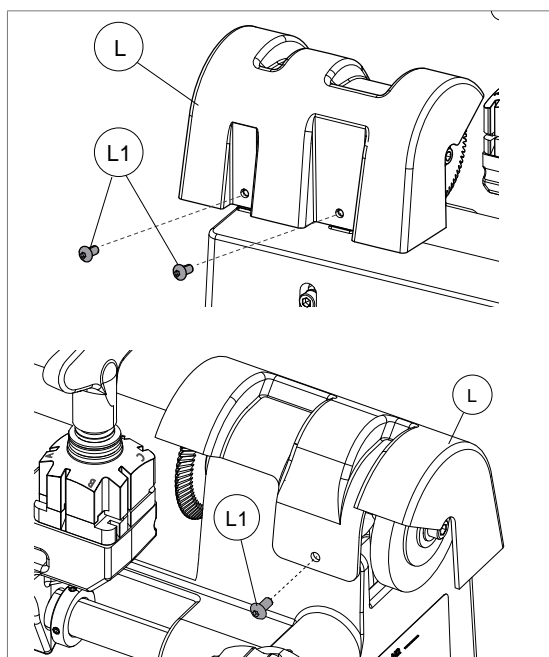

Fig. 29
- 1) Remove the cover (L) by loosening the 3 screws (L1) (Fig. 29).
- 8) Return the machine to its upright position and place the protective cover (L).